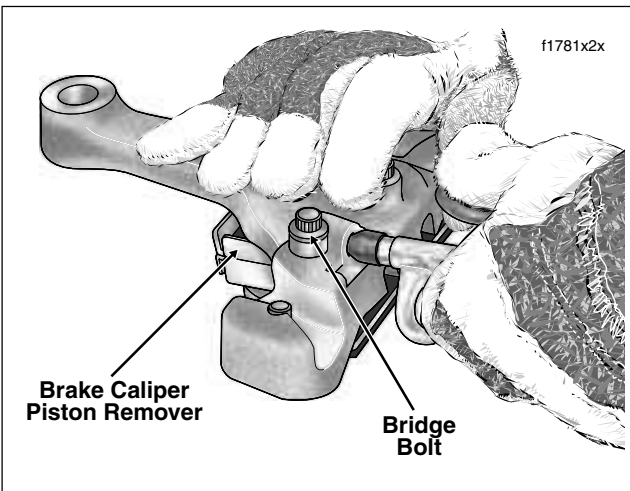

Figure 2-69. Direct Compressed Air Into Banjo Bolt Hole
- e. Using a tapered, rubber-tipped nozzle on the air hose, apply low pressure compressed air into the banjo bolt hole to force pistons into contact with cushion of tool. See Figure 2-69.